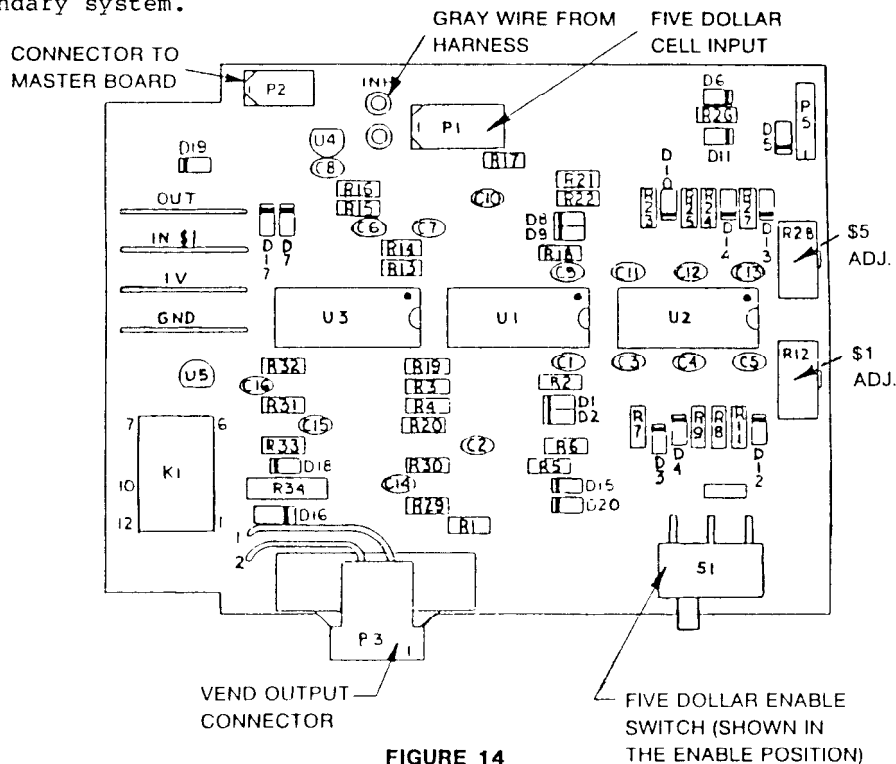

FIGURE 14
PRIMARY DETECTION SENSITIVITY ADJUSTMENT (\$1 & \$5 NOTE ACCEPTOR). See Figure 14.
2. Position the solenoid so that when it is energized, it will cause the lower drive rollers to lift the upper rollers to the point where the upper roller shaft is raised approximately .032 (.8 mm) in its bearing slots. See Figure 14. This adjustment must be checked under actual operating conditions, not by manual actuation.